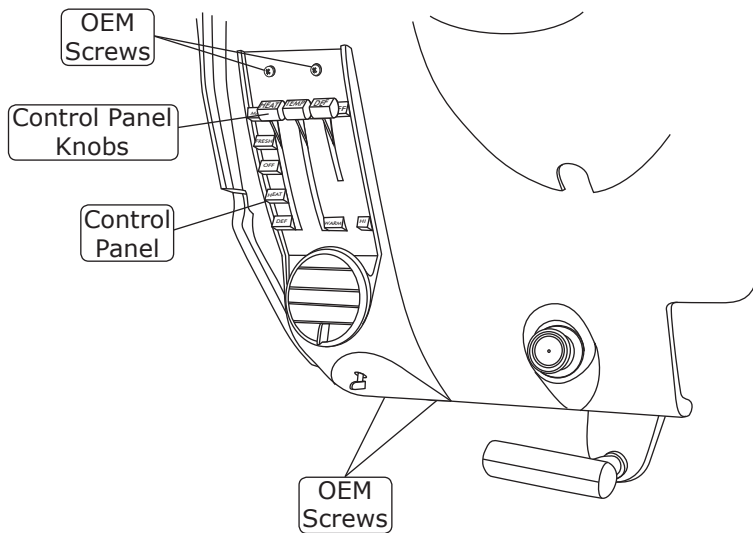

Figure 1
1. Remove (4) OEM mounting screws from the top and bottom of the control panel (retain) (See Figures 1 & 2, below).
1. Remove the (3) control panel knobs (See Figures 1 & 2, Page 4).
2. Remove the (2) screws from the OEM control lever assembly (retain) (See Photo 1, below).